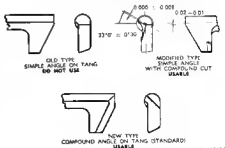

Figure 62. Firing pin 6200976.
h. Check to assure that only the new type of modified type firing pin (Fig. 61) is used. The old type pins can be modified by depot maintenance if the quantity involved warrants the work required to accomplish this (Fig. 62). Function test bolt and firing pin.